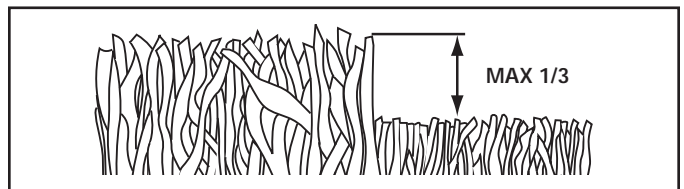

FIG. 10
- For best results, adjust the lawn mower cutting height so that the lawn mower cuts off only the top one-third of the grass blades (See Fig. 10). If the lawn is overgrown it will be necessary to raise the height of cut to reduce pushing effort and to keep from overloading the engine and leaving clumps of mulched grass. For extremely heavy mulching, reduce your width of cut by overlapping previously cut path and mow slowly.